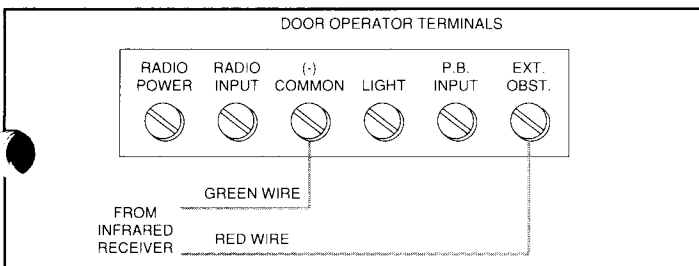

Figure 19
Step 41: Run the red and green conductor wire from the detector (labelled "to operator") up the side of the door opening and over to the channel. Run the wire across the top of the channel to the operator terminals marked "Common and Obstacle" — (see Figure 19). Push the **three (3) wire ties** provided into the holes of the first, center and last spreader brackets. Wrap ties around the wire and pull through slot to secure wire firmly.